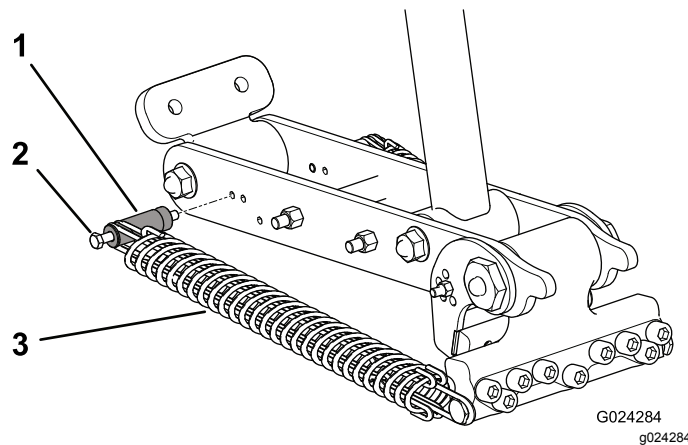
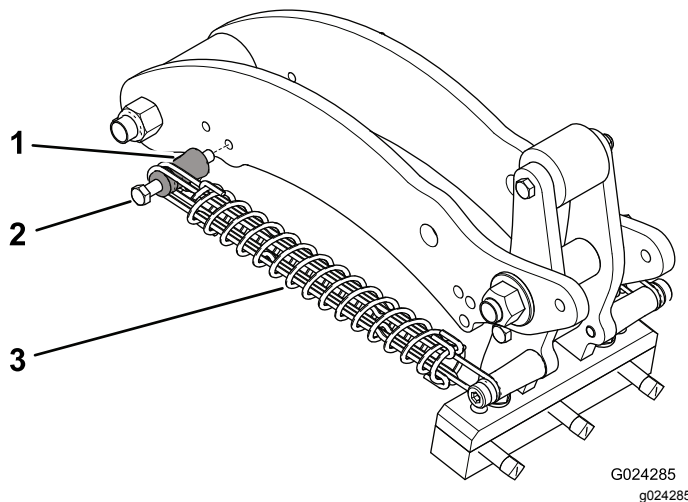

Figure 42
Figure 43
- Remove the nut securing the spring mounting post bolt to the linkage arm (Figure 42 or Figure 43).
- Remove the mounting post bolt and the mounting post from the linkage arm and reinsert them into the another adjustment hole (Figure 42 or Figure 43).